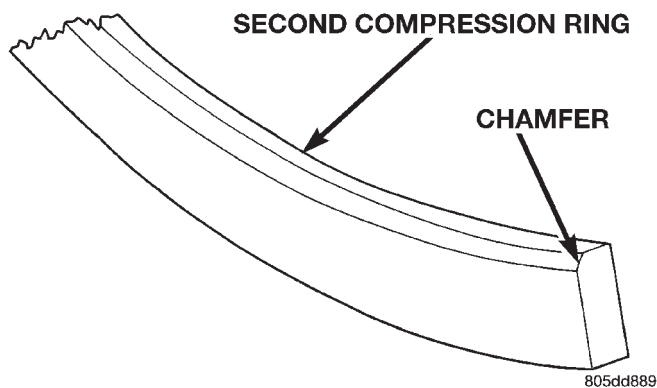

Fig. 11 Second Compression Ring Identification
(7) The second compression ring has a chamfer on the BOTTOM of the inside edge (Fig. 11).